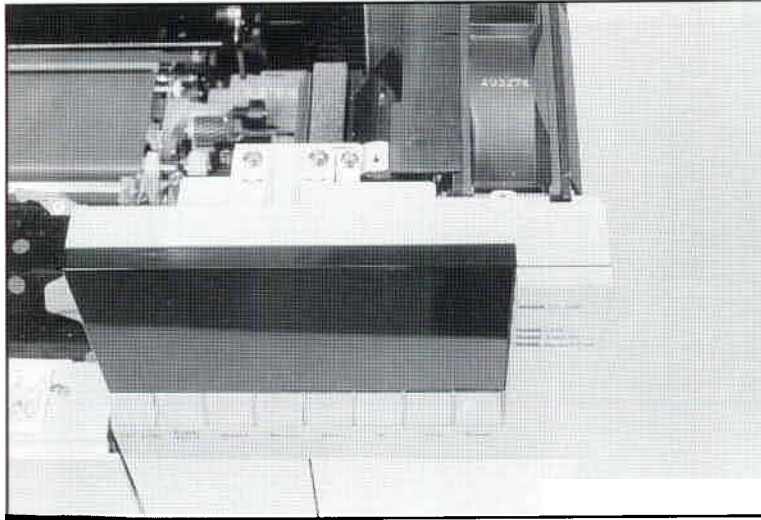

Figure 6-5
2. Open the Top Cover and remove (3) screws circled in Figure 6-5.
3. Remove (1) screw from the lower left rear, and (1) screw from the lower right of the Control Panel (see the arrow in Figure 6-5).